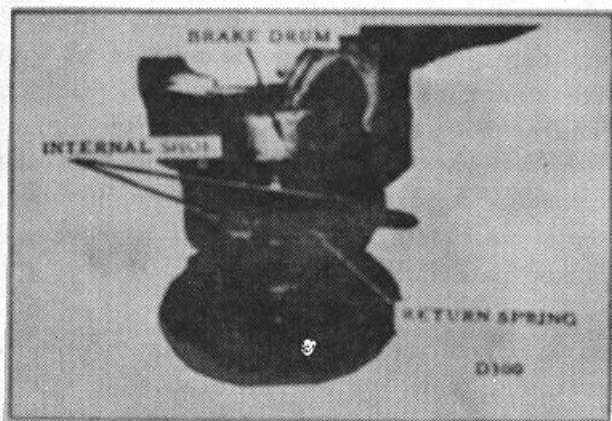

Figure 18.
9. Remove the parking brake drum. (Fig. 18)